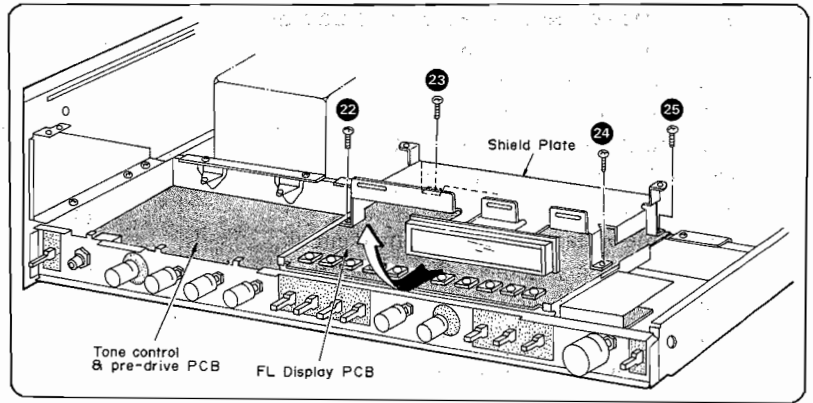

Fig. 6
4. To detach the FL display printed circuit board (center), first remove the tuner printed circuit board and the 4 setscrews (Fig. 6 : 22 ~ 25) of the shield plate (upper), and then lift the circuit board in the direction of the arrow in Fig. 6.